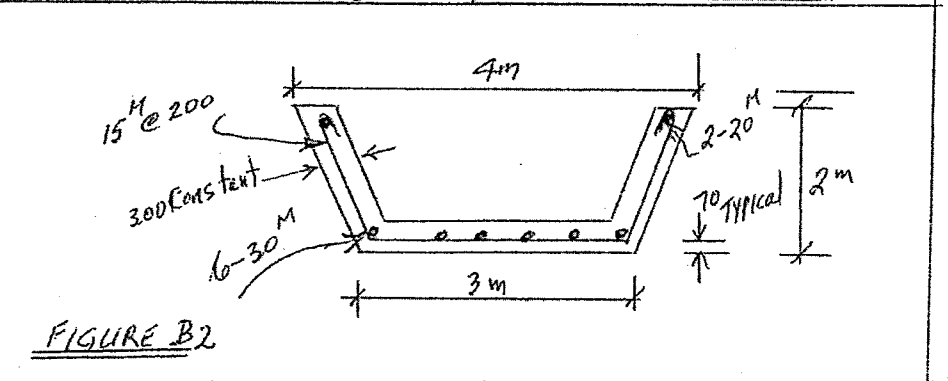

FIGURE B2
- B2. Figure B2 shows the cross-section of a reinforced concrete culvert. Calculate the moment of resistance  $M_r$  and the shear resistance  $V_r$  of the section. Use  $f_c' = 35$  MPa and  $f_y = 400$  MPa.